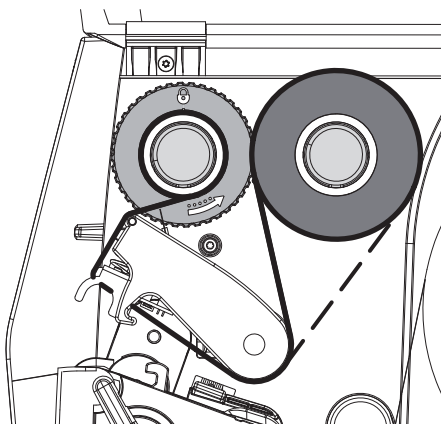

Figure 13 Transfer Ribbon Feed Path
5. Adjust the position of the guide on the take-up hub to the width of the ribbon core (4) and push ribbon core on the take-up hub (2).
6. Guide the transfer ribbon through the printing unit as shown in Figure 13.
► Guide transfer ribbon over the label sensor (6).
7. Secure starting end of transfer ribbon to the transfer ribbon core (4) with adhesive tape. Regard counterclockwise rotation direction of the transfer ribbon take-up hub here.
8. Turn transfer ribbon take-up hub (2) counterclockwise to smooth out the feed path of the transfer ribbon.